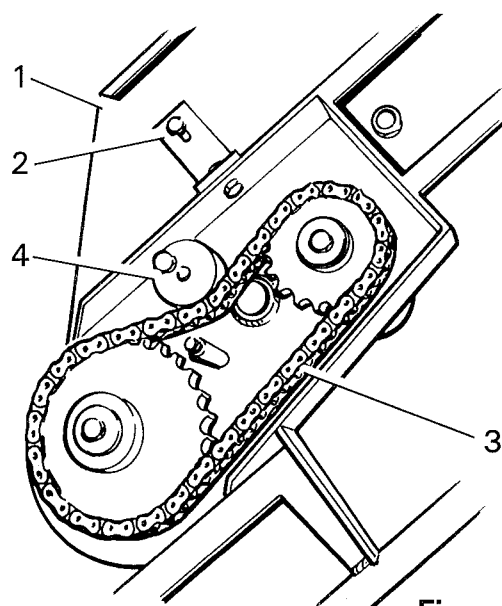

Figure 22
To ensure the web panels (*item 1, figure 22*) do not foul the elevator web, they are mounted on slotted brackets (*item 2, figure 22*) which allow them to be positioned vertically and horizontally relative to the web. Care should be taken
The discharge elevator drive chain (*item 3, figure 22*) is tensioned by rotating the tensioner block (*item 4, figure 22*).